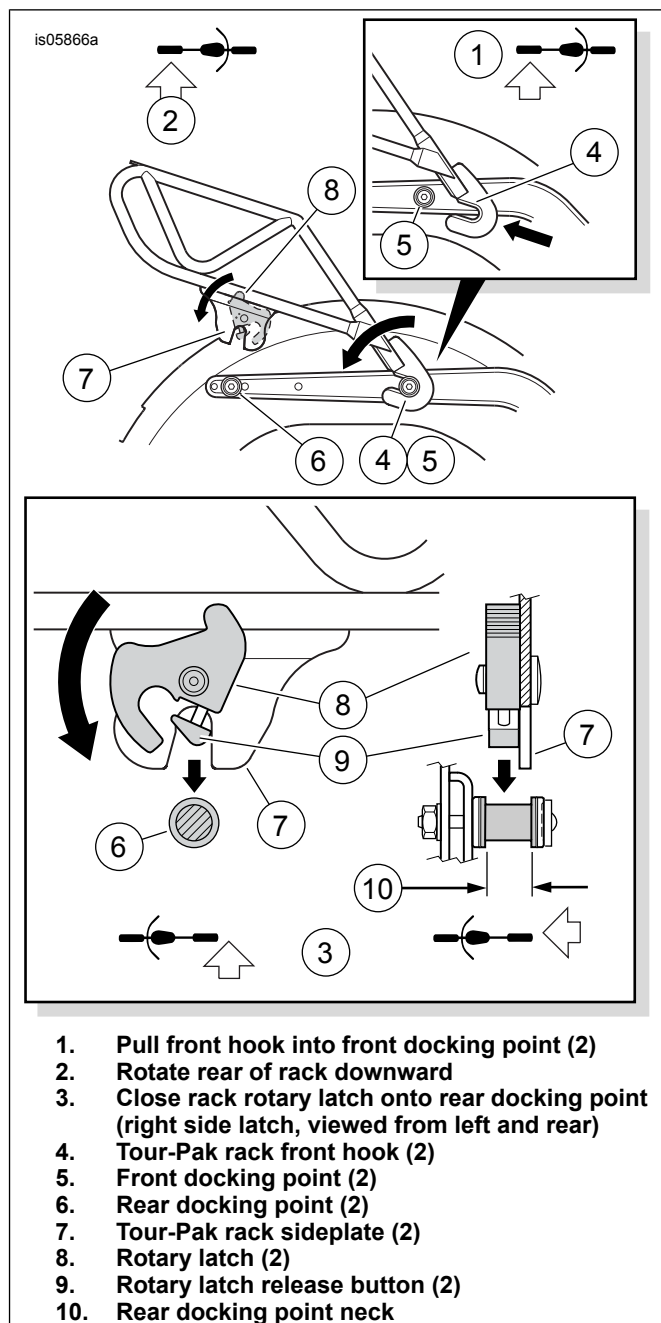

Figure 2. Rack Installation to Docking Points
1. See Figure 2, **Inset 1**. Stand behind the motorcycle, pull the rack front hooks (4) into the front docking points (5) in the direction of the black arrow. This can require some gentle squeezing or spreading of the hooks.
2. See Figure 2, **main view (2)**. Pull the rotary latches (8) back into their rearmost position (small curved arrow). Rotate the rack downward (large curved arrow), positioning the rear rotary latches over the rear docking points (6). Verify the latches and rack sideplate (7) notches are aligned and fit into the neck (10) of the rear docking points. This can require some gentle squeezing or spreading of the sideplates.
3. See Figure 2, **Inset 3**. Push the rack downward and close the rotary latches (8). Press the ribbed lever as far forward as it goes (direction of curved arrow). A click is heard when the latch is in place. If the latch does not easily close, do not force. Check alignment again, as described in Steps 8 and 9.
4. **To remove the Tour-Pak luggage and rack**, press the release button (9) and pull the rotary latch lever back. Carefully lift the rear of the rack up and guide the rack out of the front docking points.